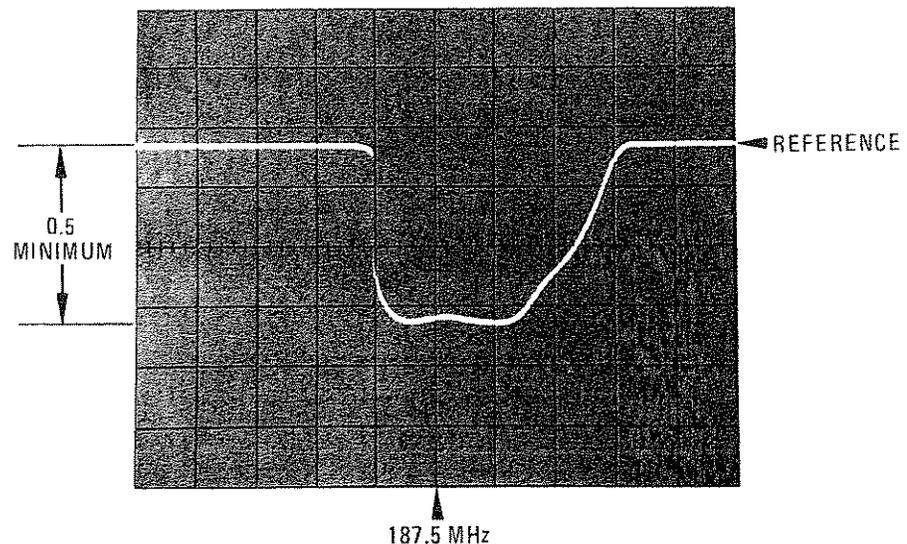

Figure 5-7. YTO Sampler Frequency Response
8. Adjust A3A9A5C1 and C2 (with an insulated adjustment tool) to get an oscilloscope display similar to Figure 5-7. Tune for maximum negative voltage and flatness over the center two divisions. The minimum change from the reference level to the maximum negative voltage should be 0.5 volts. (Troubleshooting Note: If the minimum change is out of tolerance, A3A9A5Q3 and Q8 may have low gain, the YTO feedback signal feeding the RF port of the mixer may be low, or the sampler may be bad.)